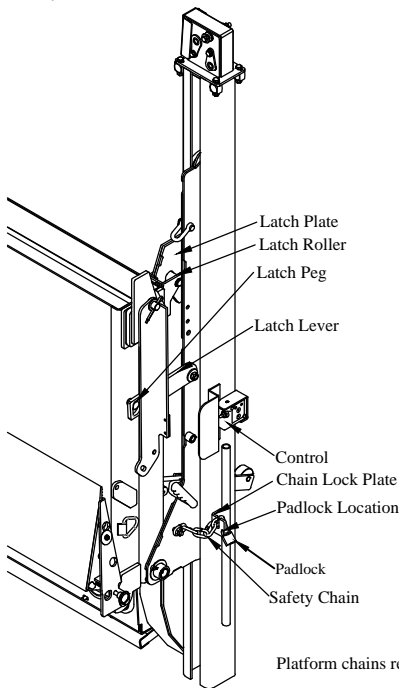

Figure 13: Storage/Travel Position.
- Step 1. Unlock and remove the Padlock. Move the Safety Chain from the Chain Lock Plate. Put the Padlock in the same location it was removed from (Figure 13).
- Step 2. Verify that the Latch Lever is securely hooked on the Latch Peg on the platform (Figure 13).
- Step 5. Verify that the Latch Lever is securely hooked on the Latch Peg on the platform (Figure 13).
- Step 6. Raise the platform until the platform Latch Rollers drive up into the Latch Plates (Figure 13).
- Step 7. Place the loose end of the Safety Chain in the slot on the Chain Lock Plate (Figure 13).
- Step 8. Always install the Padlock and deactivate the control when not in use (Figure 13).